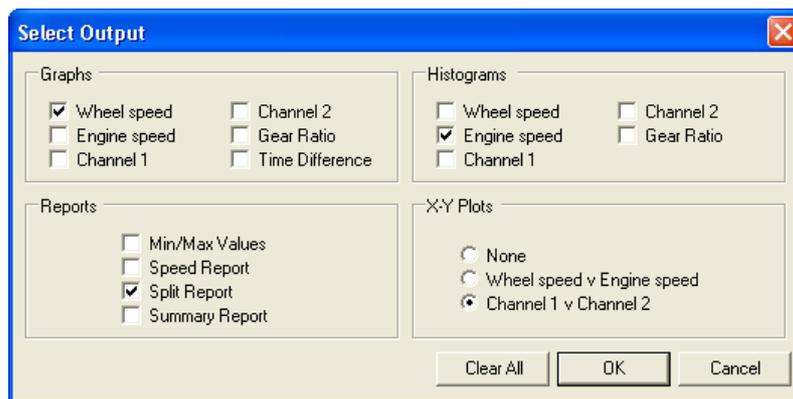

Figure 30 - Select Output Dialog
1. Select the **View** ➔ **Select Output** option from the main menu. The Select Output dialog (Figure 30) appears showing all the currently selected screen output items.